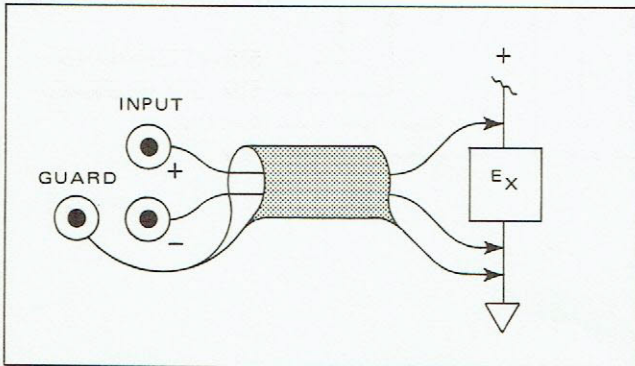

Figure 2.12 - Basic Voltage Measurement Connections
2.57 An ac or dc voltage measurement connection recommended to minimize the effects of noise requires a two-conductor shielded cable connected as shown in figure 2.12.